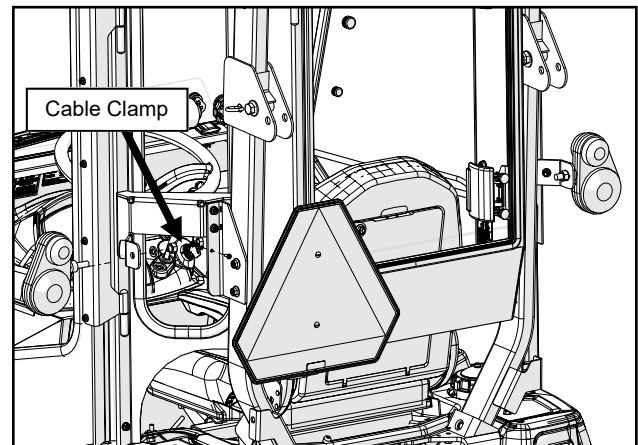

Fig. 30.3 (Relocate Rear Lights)
- 30.3** Thread the light wires through the hole in the light mount bracket and re-install the washer and nut. See Figure 30.3. Make sure the light is not crooked and tighten the nut.
- 30.4** Connect a rear light extension harness to the left rear light bullet connectors. Run the harness under the rear light mount and secure it with a cable clamp. See Figure 30.3.